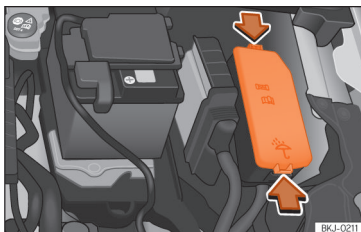

Fig. 160 In the engine compartment: lid of the fuse box.
- Press the locking tabs to unlock the fuse box cover »» Fig. 160.